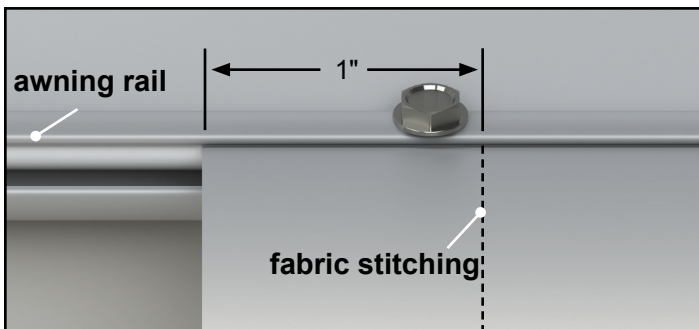

Fig.8
- Install the screw down through the awning rail into the fabric and the polycord (Fig.8).